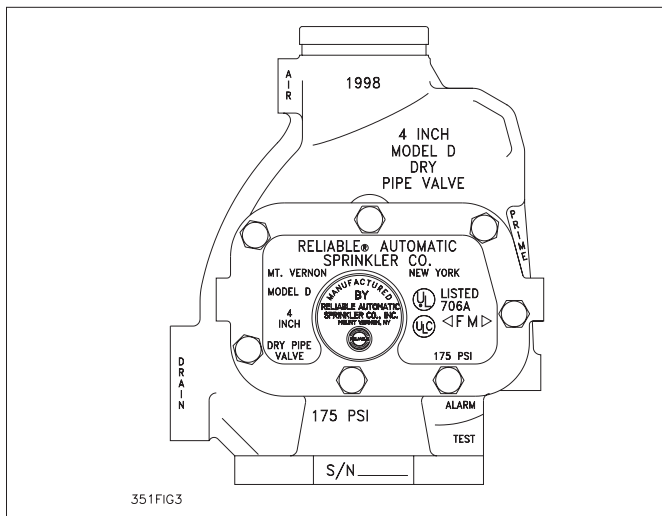

Figure 3
- b. US Standard Flanged Inlet and Grooved Outlet (Fig. 3):